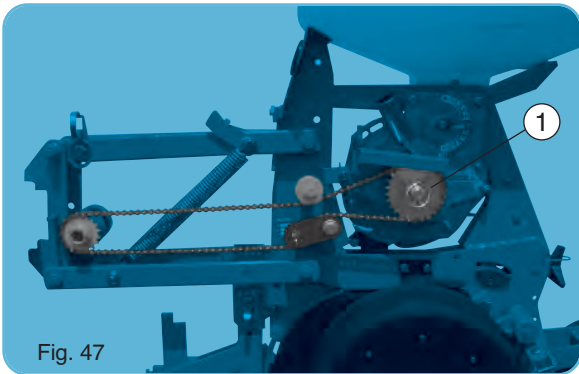
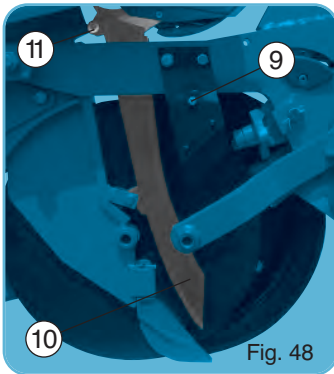

Fig. 47
Fig. 48
The few options mentioned below refer only to models adapted to specific conditions or uses. The drive chain is mounted as per fig. 47. The individual disengaging of a metering unit is possible by removing the lynch pin (1) or by disconnecting the vacuum hose. The seed depth is adjusted by the handwheel (2) which changes the height of the 2 depth wheels (3) in relation with the furrow disc openers (4). A marker close to the handwheel, provided with a gradual scale, ensures the uniformity of the depth control on all row units of the planter. This furrow opener and ground adjustment system guarantees an accurate and regular seed depth in all types of soil and conditions because the depth wheels are positioned perpendicular to the falling point of seeds. The 2 rear press wheels (5) affect only the closing of the seed furrow. They float independently and therefore do not have any effect on the ground engaging. Their soil pressure is regulated by the handwheel (6). This pressure has to be chosen carefully in order to assure proper seed to soil contact. Soil should be pressed over the complete length of the row. This setting depends on the type and humidity of the soil. It is possible to adjust the width of the rear press wheels by 2 settings with a screw (7). In order for the furrow disc opener to remain properly cleaned, the 2 gauge wheels (3) have to touch (without pinching) their outside circumference. After starting up the planter, the factory assembly may need readjustment because they are too tight; this can then be improved by putting the washers (8) from one side to the other of the articulating arms. Adjust the pressure of the scrapers by means of bolts (9). Before each new planting season and even during planting, check if the drop tubes (10) are in good condition as consistent and regular seeding will depend on this. Do not hesitate to replace them if they are worn or damaged. To replace them, remove shaft (11) after removing one of the gauge wheels and one furrow disc opener (fig. 48). The function of clod removers (12) is to clear the surface of the soil but not to plow a furrow. One of the coulter is to slice open hard soil and move stones away from the track of the disc opener. They need to be adjusted accordingly. Using them in stony soils may be a problem because they can cause clogging and blocking. In this case it is better to choose an assembly with a flexible support bracket (fig. 52) which is efficient in difficult soil conditions. The stop (13) has a part which can be dismantled and removed for a wider range of movement.
Opțiunile enumerate mai jos se referă numai la modele adaptate unor condiții sau utilizări specifice. Lanțul de transmisie se montează conform fig. 47. Debreierea individuală a unei unități de distribuție este posibilă prin îndepărtarea șpiintului (1) sau prin deconectarea furtunului de aspirație. Adâncimea de însămânțare este reglată cu ajutorul volanului (2) care acționează asupra decalajului în înălțime între cele 2 roți de adâncime (3) și discurile de deschidere a brazdei (4). Un marcator aflat în apropierea volanului, cu scară rând, asigură uniformitatea controlului adâncimii pe toate rândurile semănătorii. Acest sistem de brăzdare și de control a adâncimii garantează o adâncime de însămânțare exactă și regulată pe toate tipurile de sol și în orice condiții, deoarece roțile de adâncime sunt amplasate perpendicular pe punctul de cădere a semințelor. Cele 2 roți din spate (5) nu fac decât să închidă brazda; acestea sunt libere și flotante și nu influențează adâncimea însămânțării. Presiunea lor la sol este reglată de la volan (6). Această presiune trebuie aleasă cu atenție, pentru a asigura un contact corespunzător între semințe și sol pe toată lungimea rândurilor; setarea presiunii depinde de tipul și umiditatea solului. Ecartamentul roților tasoare din spate poate fi reglat pe 2 nivele cu ajutorul unui șurub (7). Pentru o curățare corectă a discurilor deschizătoare de brazde, cele 2 roți tasoare (3) trebuie să atingă (fără să prindă) circumferința lor exterioară. După punerea în funcțiune a semănătorii, se poate dovedi că montajul din uzină trebuie ajustat, fiind prea strâns; acesta poate fi îmbunătățit prin schimbarea șablor (8) de pe o parte a brațelor de articulare pe alta. Reglați presiunea raclaelor discurilor cu ajutorul unor buloane (9). Înainte de fiecare sezon și chiar și pe parcursul sezonului de însămânțare, verificați ca tuburile de coborâre (10) să fie în bună stare de funcționare, deoarece o însămânțare regulată și corectă depinde de aceasta. Pentru înlocuirea lor, îndepărtați axul "11", după demontarea unei roți tasoare și a unui disc deschizător (fig. 48). Rolul dispozitivelor de spargere a bulgărilor "12" este să curețe suprafața solului, nu să facă o brazdă; cel al cuțitului de plug este să taie solul tare și să împingă pietrele din calea discului care deschide brazdele. Așadar, ele trebuie reglate corespunzător. Folosirea lor în soluri pietroase poate fi o problemă, deoarece ele se pot infunda și bloca. În acest caz, este mai bine să alegeți un montaj pe suport flexibil (fig. 52), care este foarte eficient în condiții de teren dificil. Opritul "13" are o parte demontabilă care poate fi îndepărtată pentru un domeniu de mișcare mai larg.
Kilka wymienionych poniżej opcji dotyczy tylko adaptacji do szczególnych warunków pracy. Montaż łańcucha przenoszącego napęd przeprowadza się jak pokazano na schemacie fig. 47. Indywidualne odłączenie sekcji wysiewającej jest możliwe poprzez wyciągnięcie zawleczki (1) lub odłączenie przewodu zasysającego. Głębokość wysiewu ustawia się za pomocą pokrętle (2), które wpływa na przesunięcie wysokości 2 kół nośnych (3) względem talerzy otwierających bruzdę (4). Punkt odniesienia, obok pokrętle, ze skalowaną podziałką, zapewnia równe ustawienie głębokości siewu na każdym rzędzie siewnika. Ten układ umieszczania nasion w glebie gwarantuje zadaną głębokość siewu regularną na wszystkich typach gleby i wszystkich warunkach pracy. Koła boczne znajdują się w pionowej linii punktu spadania nasion. Dwa tylne koła (5) służą tylko do zamknięcia bruzdy; zawieszona w pozycji płynnej nie mają bezpośredniego wpływu na głębokość wysiewu. Ich nacisk na glebę ustawia się pokrętle (6). Ten nacisk musi być wyregulowany dokładnie, w taki sposób aby zapewnić odpowiedni kontakt z podłożem na całej długości rzędów; będzie on zależał od natury i wilgotności gleby. Jest możliwa regulacja rozstawu pomiędzy kołami ugniatającymi na 2 szerokości za pomocą śruby (7). W celu zapewnienia poprawnego czyszczenia dysków otwierających bruzdę, 2 koła nośne (3) muszą się o nie obcierać (ale nie zakleszczać się w nich) na przednim obwodzie. Po pierwszym uruchomieniu siewnika może się okazać, że montaż fabryczny może być nieodpowiedni – zbyt mocno skrośniony rozstaw – i będzie musiał być poprawiony poprzez dołożenie podkładek (8) z jednej lub z drugiej strony ramienia przegubu. Wyregulować docisk skrobaków tarczy za pomocą śrub (9). Przed każdą nową kampanią siewną oraz na jej początku, należy sprawdzić stan rylinek prowadzących nasiona (10): od ich dobrego stanu będzie zależała regularność wysiewu. Nie należy wahać się przed wymianą zużytych lub uszkodzonych rylinek. W celu ich zdemontowania należy wyciągnąć sworzeń (11) po zdjęciu jednego z kół nośnych i talerza otwierającego bruzdę (fig. 48). Rola roznosiacza (12) jest usunięcie brył ziemi a nie tworzenie bruzdy. Krój nożowy rozdrabnia twarde bryły i odgarnia kamienie z linii talerza; trzeba go wyregulować w tym kierunku. Ich wykorzystanie na bardzo zakamienionej glebie jest dosyć delikatne, gdyż mogą powodować zapchanie się i blokowanie. W tym przypadku należy go zamontować na elastycznym wsporniku (fig. 52), bardzo skutecznym w trudnych warunkach glebowych. Ogranicznik (13) zawiera część demontowalną, która może być zdjęta w celu uzyskania większego wychYLENIA.?
Опциите изброени по-долу се отнасят единствено за специфични условия и употреба. Задвижващата верига се сплובה съгласно фиг. 47. Самостоятелното изключване на сеещия апарат е възможно. Премахнете шплинта (1) (или откачате засмукацията маркуч). Дълбочината на сеитбата се регулира от маховик (2), който въздейства върху изместването на нивото на двете носещи кола (3) спрямо браздоотварящите дискове (4). Маркир, разположен до маховика, със скала, осигурява еднакво регулиране на дълбочината на всички редове на сеялката. Тази система на засяване и регулиране на дълбочината гарантира постоянна и точна дълбочина на сеитба върху всеки тип почва и при всякакви условия, тъй като опорните кола са разположени перпендикулярно на точката на падане на семето. 2-те задни кола (5) единствено затварят brazдата; те са свободни и плаващи, и поради тази причина нямат пряко въздействие върху регулирането на дълбочината. Натискът към почвата се регулира от маховика (6). Той трябва да се избере грижливо, за да осигури близкия контакт на семената с почвата по цялата дължина на редовете; настройката зависи от вида и влажността на почвата. Възможно е да настроите разстоянието между притъпящите кола с 2 настройки с винта (7). За правилното почистване на браздоотварящите бутуши, 2-те опорни кола (3) трябва да ги докосват леко (без да ги притиска) по габаритния контур. След пускането в движение на сеялката, може да се наложи проверка на фабричното сплбване, заради твърде затегнати части. Ще може да ги подобрите с комплекта регулиращи шайби (8), които трябва да поставите от едната или от другата страна на окачването. Настройте натиска на дисковия чистач посредством болтове (9). Преди всеки нов сезон на работа и дори в течение на работата, проверете състоянието на тръбите за семена (10): от доброто им състояние зависи последователната и точна сеитба. Не се колебайте да ги смените, ако са износени или повредени. За да ги разглобите, махнете оста (11), след като вече сте премахнали едно от опорните кола и един отварящ бутуш (fig. 48). Ролята на буцоотстранителите (12) е да почисти повърхността на почвата, а не копаенето на brazди; ролята на ножа е да разтваря твърдата почва и да отстранява камъните от следата на дисковете. Използването им върху терени с големи камъни е деликатно, защото това може да предизвика задръстване или блокиране. В такъв случай за предпочитане е монтирането им върху пружинна подпора (fig. 52), много ефикасна при трудни условия на работа. Стопорът (13) включва една разглобяваща се част, която може да се премахне, за да проучите по-широк диапазон на движение.